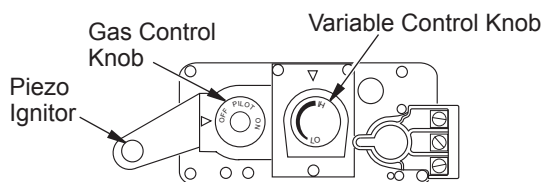

Figure 44 - Control Valve
7. Turn gas control knob counterclockwise ↺ to "PILOT" (see Figure 44).
8. Push in gas control knob all the way and hold. Immediately light the pilot by repeatedly depressing the piezo spark ignitor until a flame appears. Continue to hold for about one (1) minute after the pilot is lit. Release gas control knob and it will pop back. Pilot should remain lit. If it goes out, repeat steps 5 through 8.